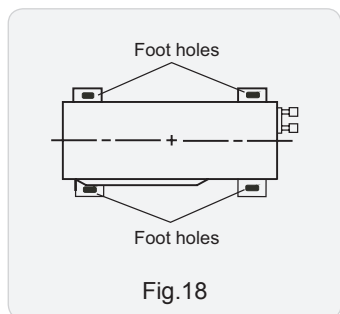

Fig.18
- (1) Place the outdoor unit on the support.
- (2) Fix the foot holes of outdoor unit with bolts.
- (As show in Fig.18)